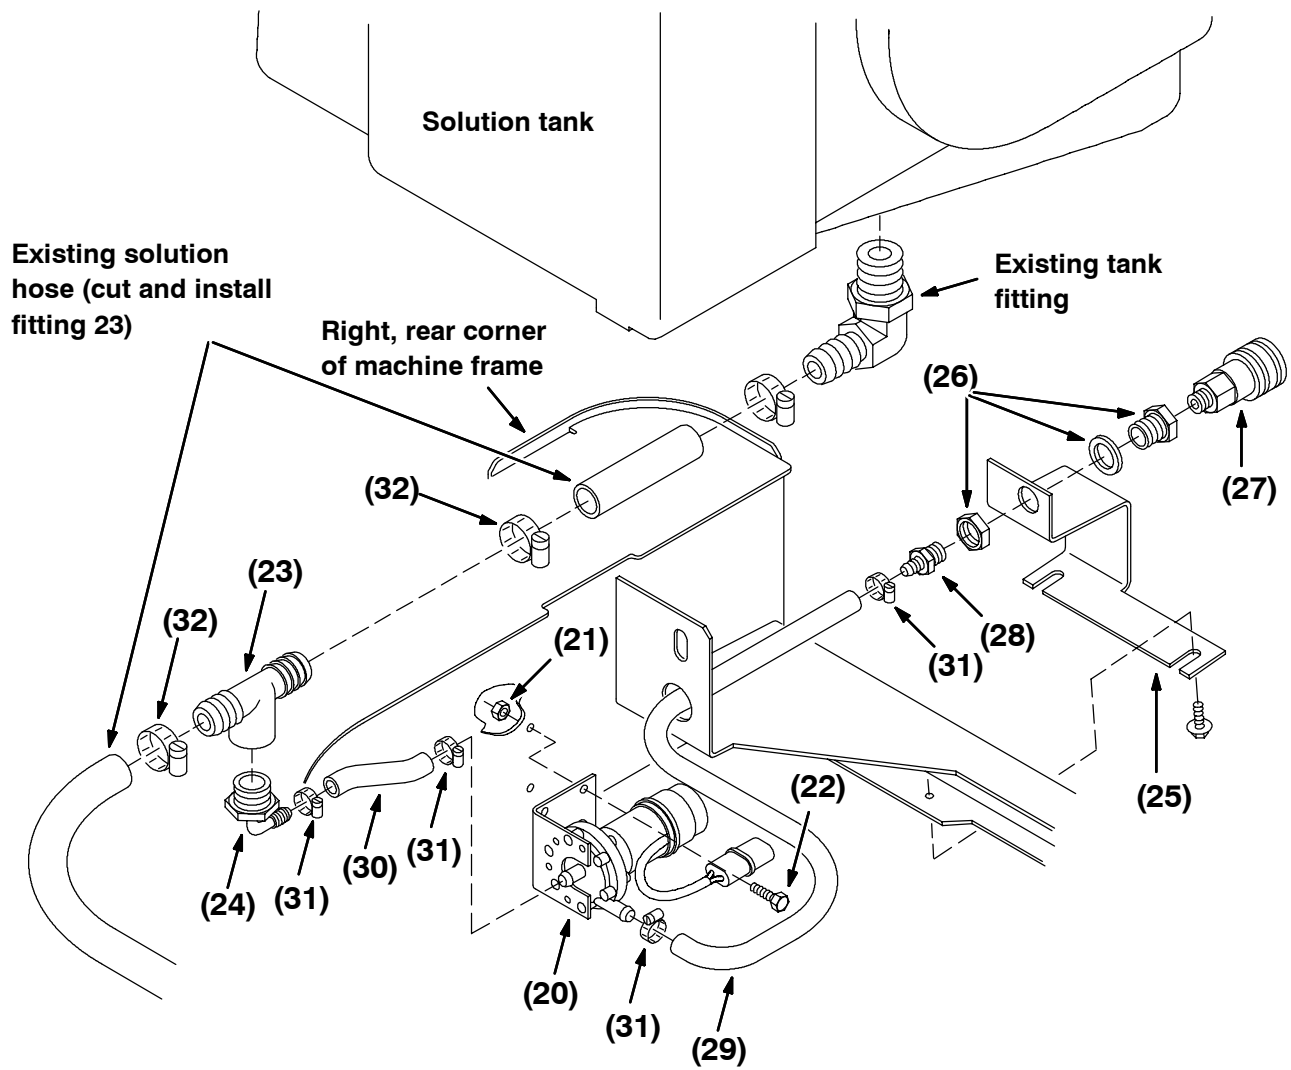

FIG. 4-Pump, Hoses, And Fittings
13. Install the 90° fitting (24) into the t-fitting (23). Refer to Fig. 4.
14. Install the shorter vinyl hose (30) onto the 90° fitting (24). Install and tighten one worm clamp (31). Refer to Fig. 4.
15. Cut the solution drain hose a few inches from the tank fitting. Install the new t-fitting (23) and two worm drive clamps (32) between the ends of the cut hose. Tighten the clamps. Refer to Fig. 4.
16. Install the longer vinyl hose (29) and one clamp (31) onto the outlet port on the new pump (20). Refer to Fig. 4.
17. Install the pump (20) into the machine using the two screws (22) and nuts (21). Route the vinyl hose (29) through the hose hole in the frame. Refer to Fig. 4.
18. Install one clamp (31) and the open end of the shorter vinyl hose (30) onto the inlet port of the new pump (2). Refer to Fig. 4.
19. Plug the new pump (20) into the main harness connector with 13V/BLK and 94/ORANGE wires. Refer to Fig. 4.
20. Install the bulkhead fitting (26) onto the mount bracket (25). Refer to Fig. 4.
21. Install the small straight fitting (28) into the bulkhead fitting (26). Hand tighten. Refer to Fig. 4.
22. Install the brass fitting (27) into the bulkhead fitting (26). Hand tighten. Refer to Fig. 4.
23. Install the open end of the longer vinyl hose (29) and one clamp (31) onto the straight fitting (28). Refer to Fig. 4.
24. Install the mount bracket onto the machine frame. Refer to Fig. 4.